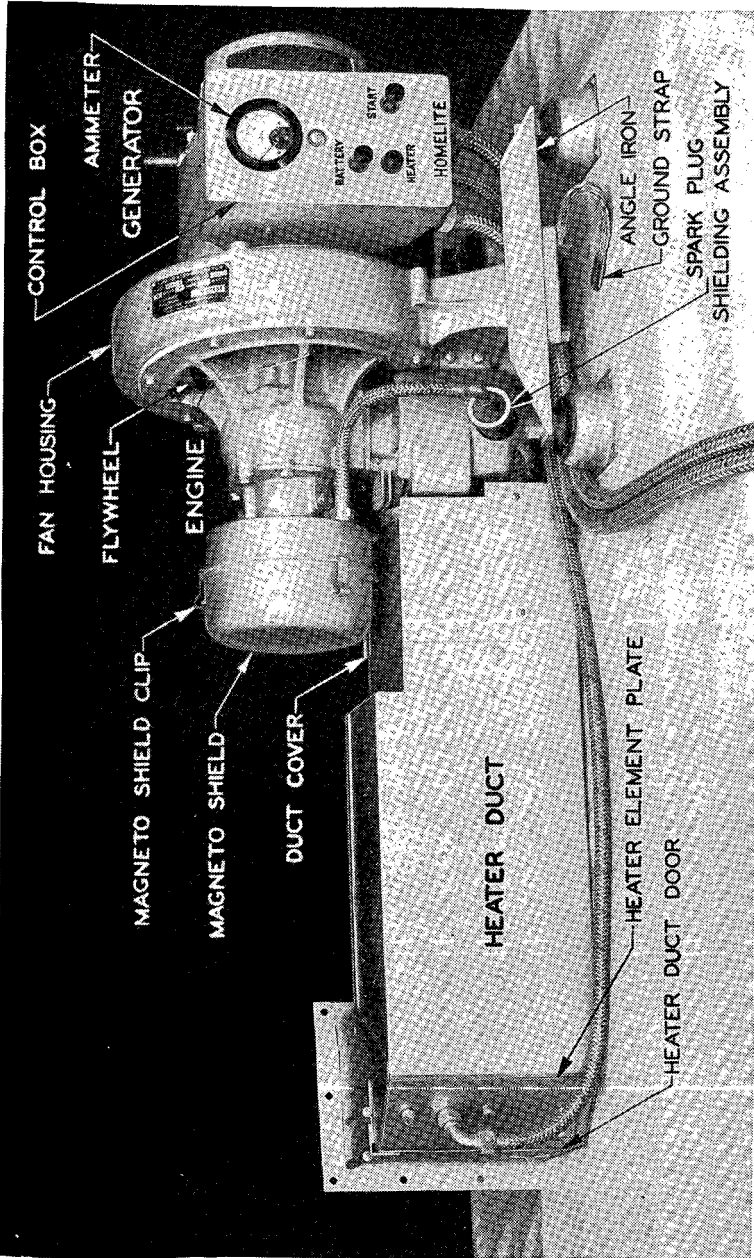
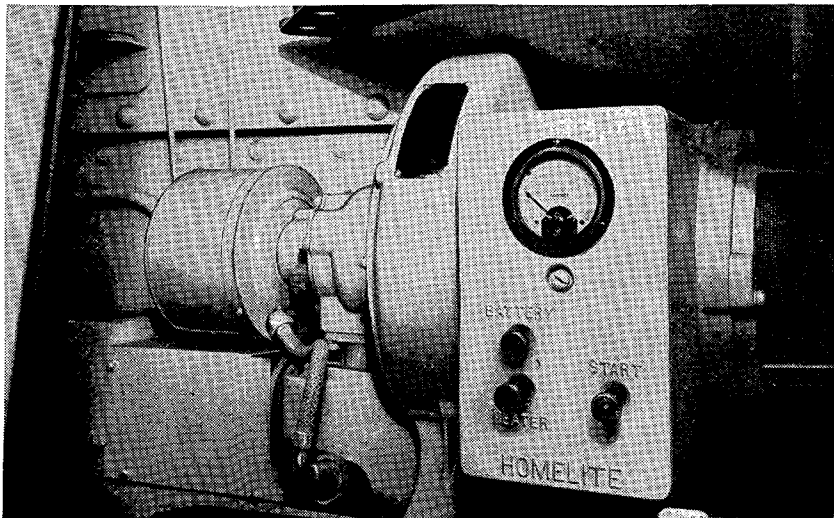

FIGURE 1.—Auxiliary generator model HRH-28—right side.
FIGURE 3.—Auxiliary generator installed in medium tank M3.
2. Description.—*a. General.*—The heater-generator model HRH-28 is a self-contained machine designed for supplying 1,500 watts, 30 volts, d-c power for charging the tank batteries, and also for preheating the tank engine in cold weather by means of heat from an electric heater element and heat from the generator engine (figs 1 and 2). In addition, the unit can be utilized for heating the crew compartment. It consists essentially of an electrical generator with controls, directly coupled to, and driven by, a gasoline engine. The unit is mounted in the crew compartment on four shock-absorbing feet, and with a metal heater duct extending from the unit to the tank engine compartment (fig. 3).
b. Components.—(1) *Gasoline engine.*—The gasoline engine supplied is a Homelite model HR, 3,400-3,600 rpm, 2-cycle, single-cylinder, air-cooled, inverted type (fig. 1). The engine is started by means of a button on the control box. A starting rope approximately 45 inches long with grip is supplied for emergency manual starting.
(2) *Generator.*—The generator is a Homelite model HR-28, 30-volt, d-c type of 1,500 watts rating, with a control box attached (fig. 1).
(3) *Heater duct.*—The heater duct runs from the generator unit to the engine compartment and contains the generator engine exhaust system and electric heater element (figs. 1 and 2).
(2) Depress the starting button on the control box (fig. 1). Release the button as soon as the engine starts and immediately open the choke partially, easing to full open position as the engine warms up.
c. Warm weather starting—or warm engine (above 50° F.).—(1) Depress the starting button on the control box (fig. 1). Release the button as soon as the engine starts.
(2) Do not use the choke unless the engine does not start within 5 seconds. If the engine does not start, use the choke as in instructions in *b* above.
*d. Emergency manual starting.—*If batteries are dead or generator is to be started for testing, it may be started manually. To accomplish this, pry open the three clips holding the shield over the magneto, with a screw driver, and remove the front half (fig. 1). Wind the starting rope counterclockwise on the starting plate which is then exposed. Use the choke as in *b* or *c* above. Pull the rope hard, giving a quick spin to the engine. Repeat if necessary until the engine starts.
4. Control.—*a. Battery charging.—*Depress the battery button on the control box (fig. 1) if it is not already in as far as it will go. The output of the generator is then utilized to charge the batteries. The charging rate is indicated by the ammeter on the control box. Full rate on discharge batteries is approximately 50 amperes. As the batteries become more fully charged, the charging rate tapers off. With almost fully charged batteries, it is approximately 5 amperes. These figures are general, and assume no load on the batteries.
*b. Cold weather starting of main engine.—*To raise the temperature in the main engine compartment to facilitate cold weather starting, depress the heater button on the control box as far as it will go (fig. 1). This permits the heater element in the forward end of the duct to utilize the full electrical output of the generator. The heat from the generator engine is also directed into the main engine compartment.
c. Heating crew compartment.—Follow instructions as in *b* above. Then open the door in the end of the heater duct (fig. 1) by lifting up. Fold this door back along the top of the duct so that the handle fastens in the catch. To reclose the door, unfasten the handle and slide the door down into its normal position.
(1) Pry open the three clips on the shield over the magneto with a screw driver (fig. 1) and take off the front half.
(2) Remove the magneto rotor by loosening the rotor nut which is then exposed. Do not remove the three screws holding the starting plate to rotor.
(3) Remove the spark plug as in preceding instructions (*a* above) to relieve compression, and permit turning the flywheel which is located in the fan housing (fig. 1).
(4) Turn the flywheel slowly in a counterclockwise direction until the breaker lever fiber on the contact assembly rests on the highest
(b) Pry open the 3 clips on the shield over the magneto with a screw driver (fig. 1) and take off front half.